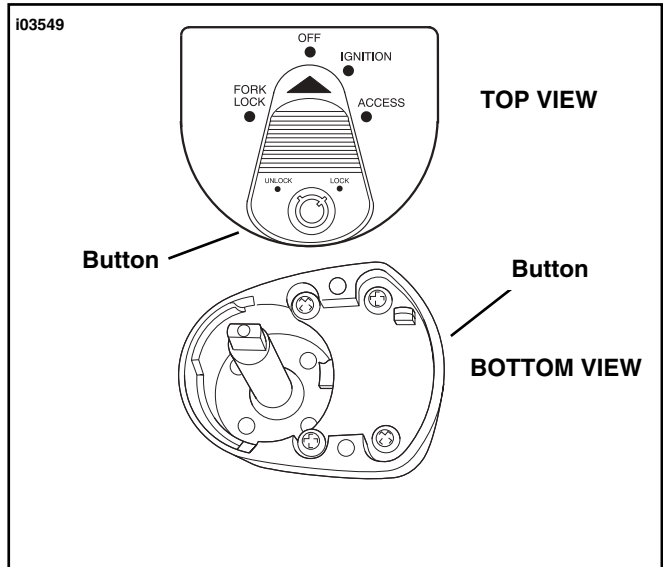

Figure 8. Ignition Switch Knob Release Button
34. See Figure 8. To remove the ignition switch knob, first turn the Ignition Switch key to UNLOCK and then turn the knob to ACCESS. Depress the release button at bottom (left side) with a small screwdriver, and while pushing key down, turn 60 degrees in a counterclockwise direction. Lift and remove knob.